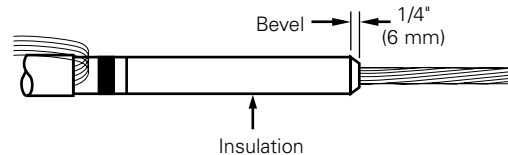

Figure 18. Line illustration of insulation bevel.
- Remove sharp edge of insulation by beveling at a 45° angle for approximately 1/4" (6 mm). Refer to Figure 18.